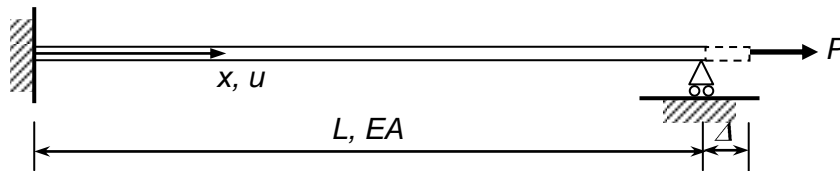

Figure 7
3. (a) State the three basic relations that a structural mechanics problem must satisfy in order that an exact solution is obtained. Then, write down the corresponding three basic relations for the case of a simple 1D linearly elastic prismatic bar subjected to end force P as shown in Figure 7, where Δ : elongation of bar due to force P , u : axial displacement in the direction of bar axis x , E : elastic modulus of material of bar, A : cross-sectional area and L : original length of bar.